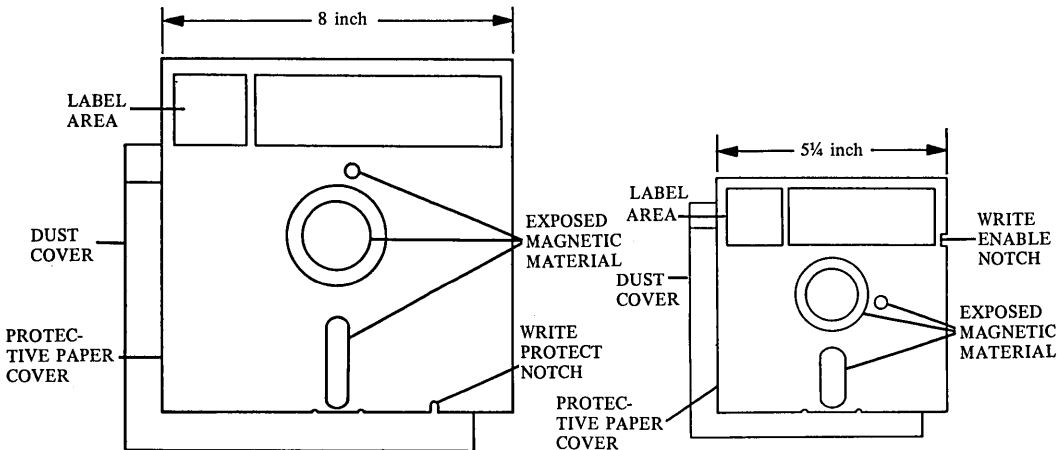

Figure 2-3. Floppy Disks
Figure 2-3 illustrates the two types of floppy disks (5-1/4 inch and 8-inch).
- Grasp only the label area. Do not touch exposed magnetic material. (See figure 2-3.)
The 5-1/4 inch floppy disks used on B 25s and B 21s have a notch on them that determines whether or not information can be changed. When the notch is visible as shown in Figure 2-3, the diskette is "write enabled" and the contents can be changed.